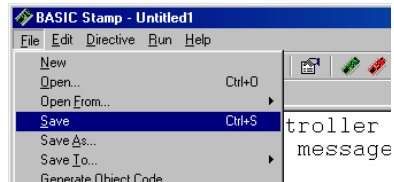

Figure 1-36
- ✓ Save your work by clicking File and selecting Save, (shown in Figure 1-36).